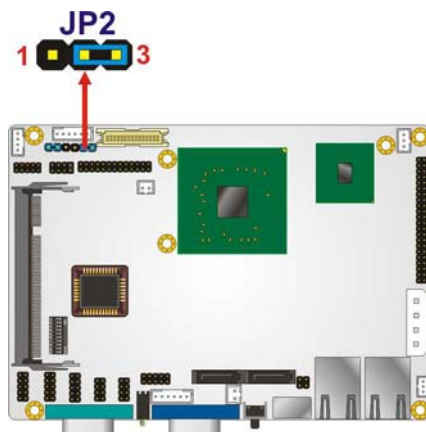

Figure 5-6: LVDS Voltage Selection Jumper Pinout Locations
- Jumper Location:** See **Figure 5-6**
The LVDS Voltage Selection jumper location is shown in **Figure 5-6**.
Jumper Location:	See Figure 5-6
The RS-232/422/485 Selection Jumper location is shown in **Figure 5-6**.